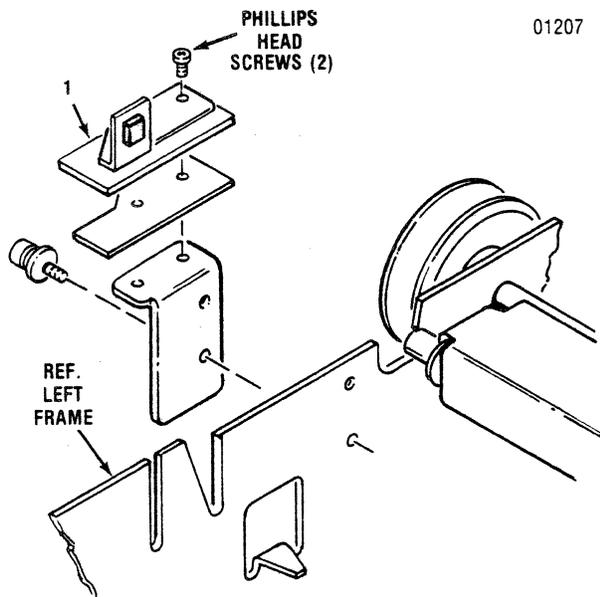

Figure 3-15 Removal/Replacement, Cover Interlock Switch
The cover interlock switch, item 1 of Figure 3-15, is attached to the left frame and is removed using a Phillips screwdriver. To remove the cover interlock switch, refer to Figure 3-15 and perform the following steps:
5. Remove the two Phillips head screws mounting the cover interlock switch to the top of the left frame and remove the switch (1) and cable assembly from the printer.